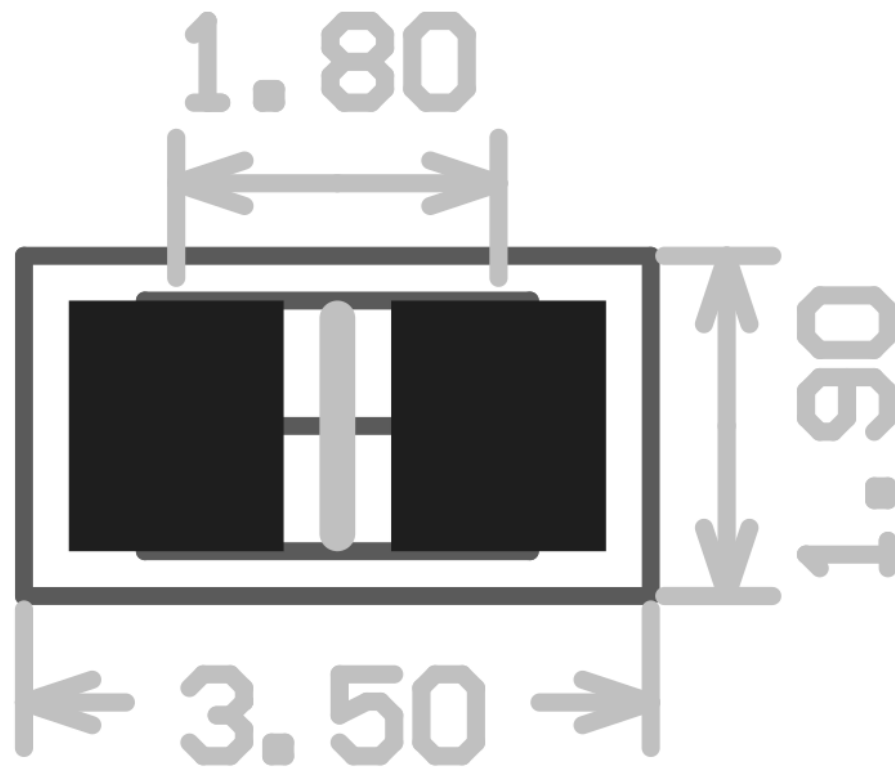

Figure 8: Component footprint with dimension in millimeters
- C_2 has footprint given with Fig. 8,